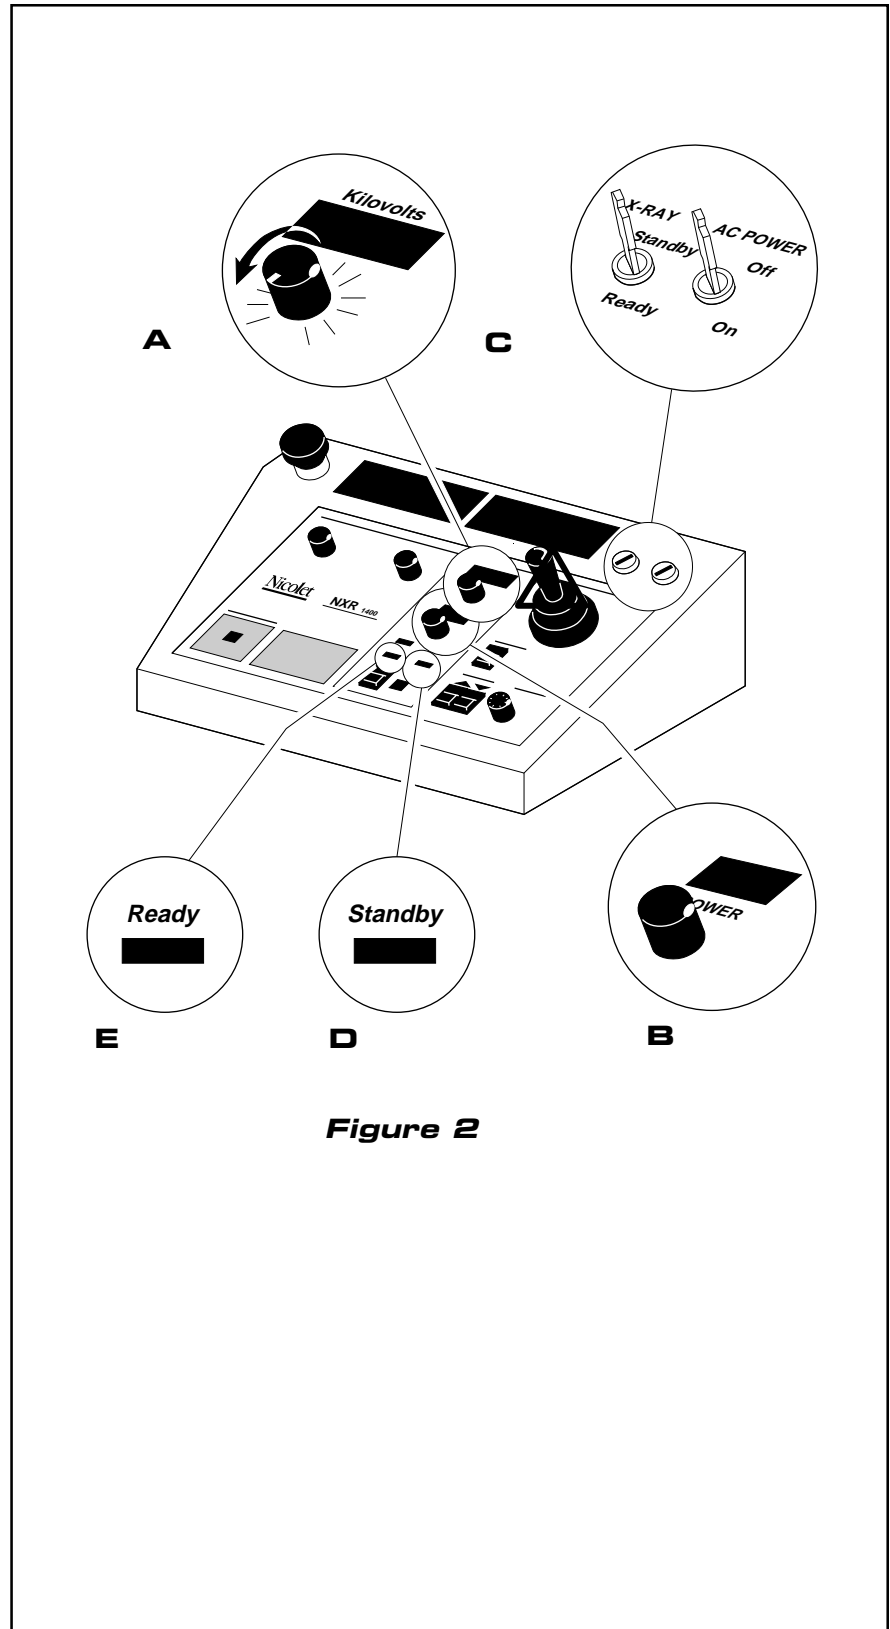

Figure 2
1. Set the voltage to its lowest amount by turning the **Kilovolts** control all the way to the left (Figure 2-A).
2. Set the power to its lowest setting by turning the **Power** control all the way to the left (Figure 2-B).
3. Insert the key in the **X-ray** key switch and turn it to *ready* (Figure 2-C). The **Standby** LED (Figure 2-D) goes out and the **Ready** LED (Figure 2-E) comes on.